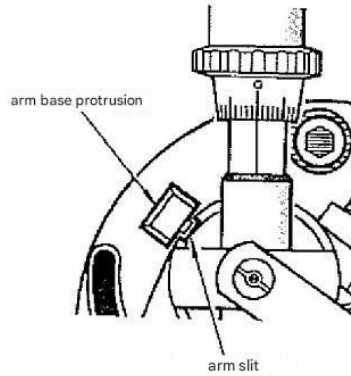

Fig 9
- ① Loosen the arm height fixing knob on the YSA-1.
- ② Pull the arm straight up to remove it from the arm base.
- ④ Align the slit on the arm side with the protrusion on the arm base as shown in Fig. 9, and push the arm further down. When the base shaft protrudes approximately 10 mm, lightly tighten the arm height fixing knob.